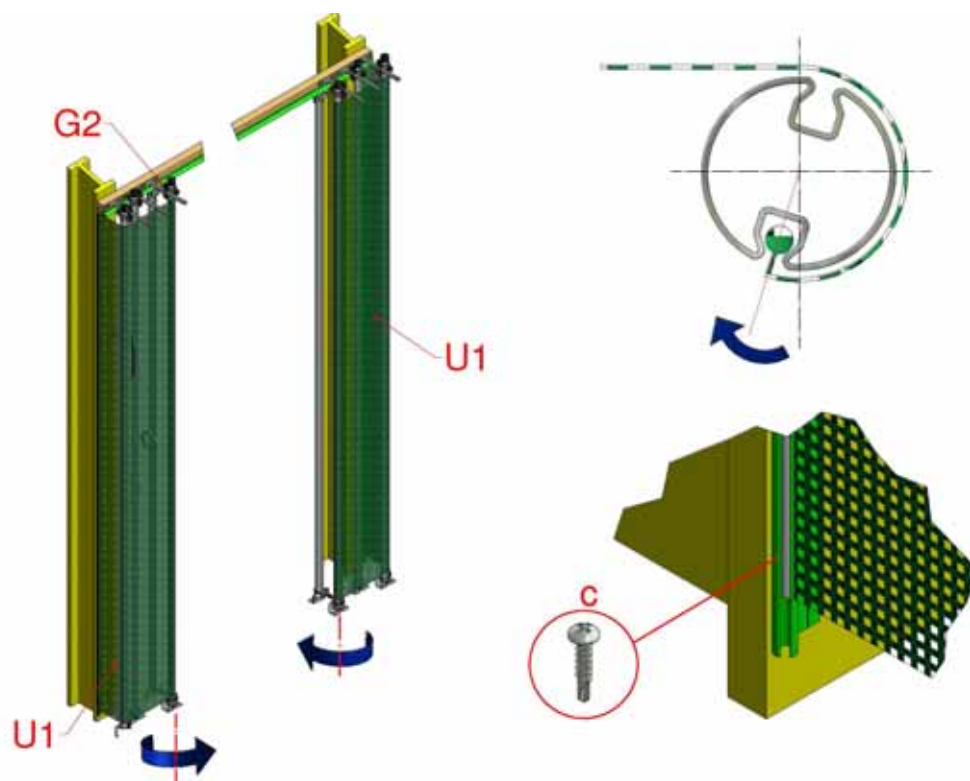

Figure 24, End Covers
4.15 Having finished the set up of the electric Motor, including the limit switches, the outer End Covers (U1) are to be installed, Figure 24. Fit the additional Control Tubes previously cut in Section 4.12 using Crossover Clamps (G2).